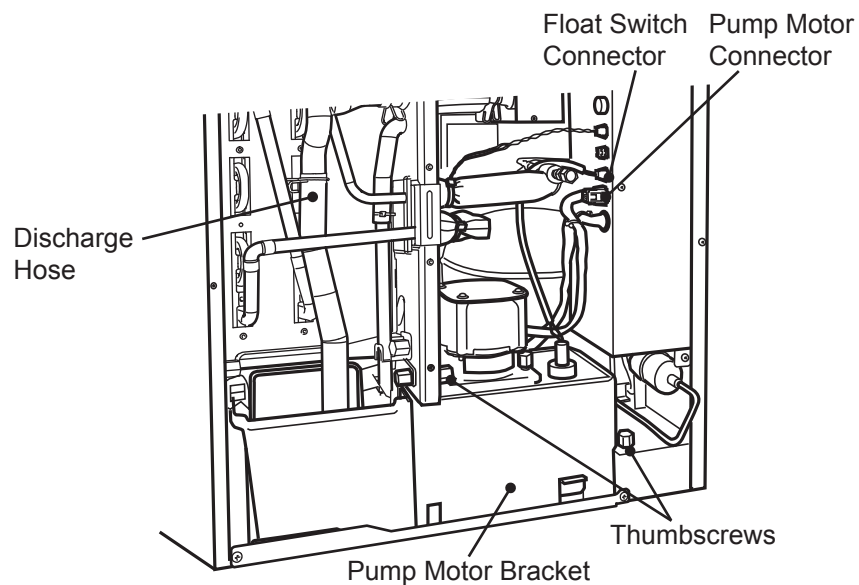

Fig. 12
- a. Loosen the two thumbscrews securing the pump motor bracket. See Fig. 12.
Be sure to let the discharge hose pass behind the copper tube and connect it securely in position. See Fig. 12. Otherwise, the discharge hose may be caught in the front insulation, leading to improper results.